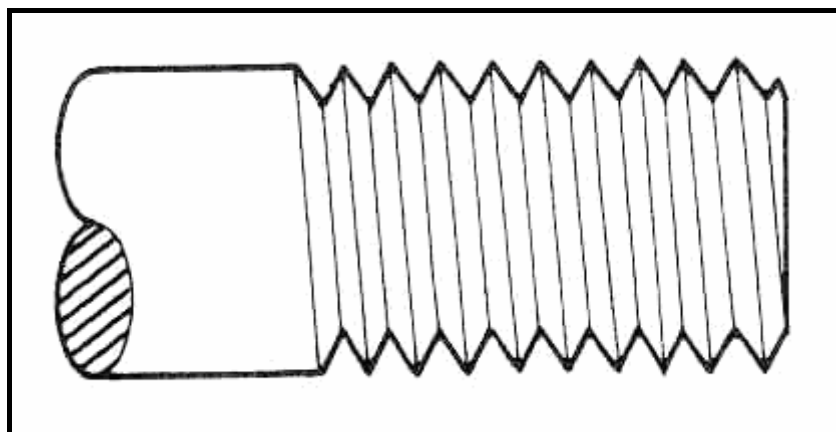

FIGURE 1.7
1.17 Identify the type of thread shown in FIGURE 1.7